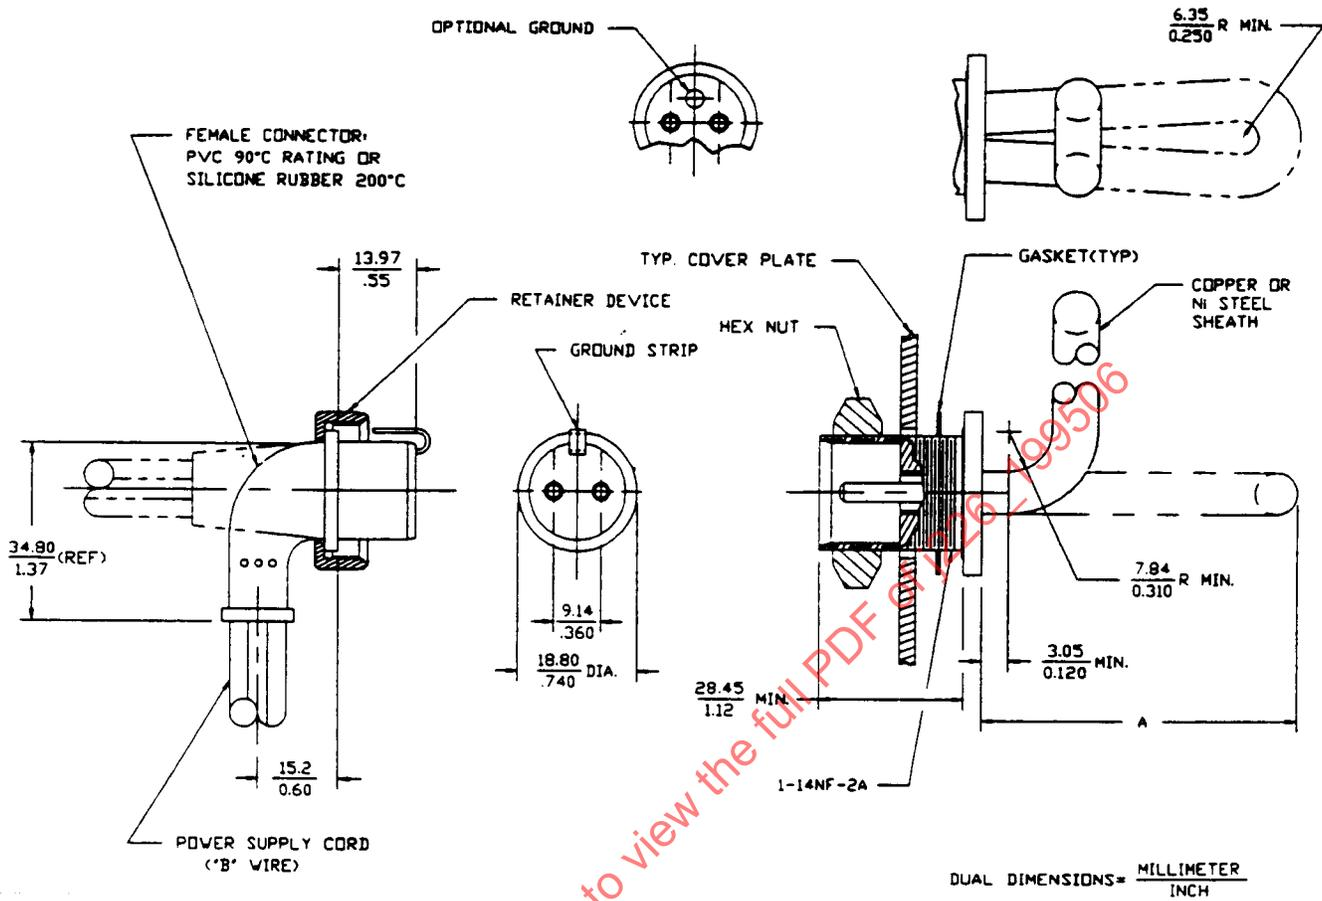
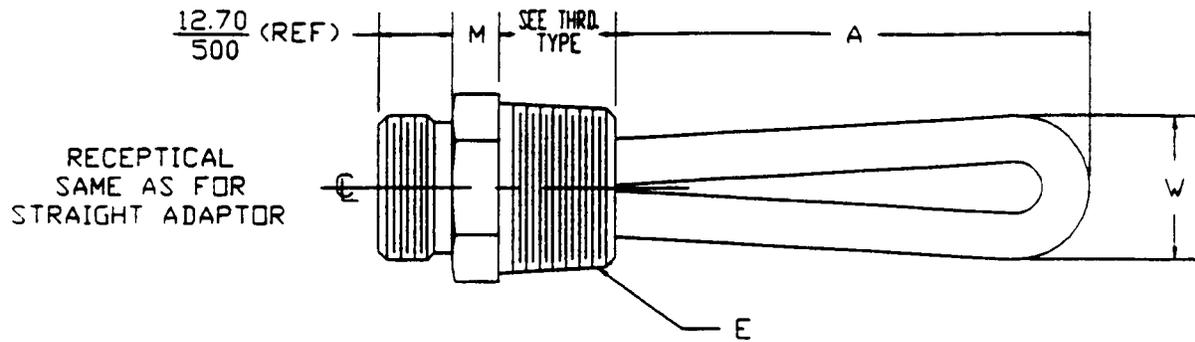

FIGURE 1—STRAIGHT ADAPTER DESIGN
FIGURE 2—THREADED BUSHING DESIGN
- 3.1 **Straight Adapter Type**—This type is designed for installation through castings, plates, or core plugs. The assembly is held in place in the casting, plate, or core plug by way of a hex nut and suitable gaskets. The grounded type power supply cord is secured to the heater assembly in a manner acceptable with current electrical standard practices. See Figure 1 and Table 1.
- 3.2 **Threaded Bushing Type**—This type is designed to fit and seal in an existing threaded opening within the coolant jacket of the engine. See Figure 2 and Table 2. The threaded bushing can be of any thread design as long as it is large enough to accommodate the loop dimension of the heating element. Typical are bushings with pipe threads or straight threads with O-ring seals. Where the threaded bushing is screwed into a removable flange, the heating element may be shaped as shown in Figure 1.